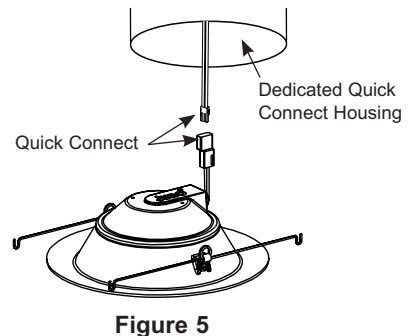

Figure 5
**Installation into dedicated quick connect housings:** Plug the connector provided on the trim into the mating connector in the housing by pushing firmly to ensure connectors are securely fastened (see Fig. 5).